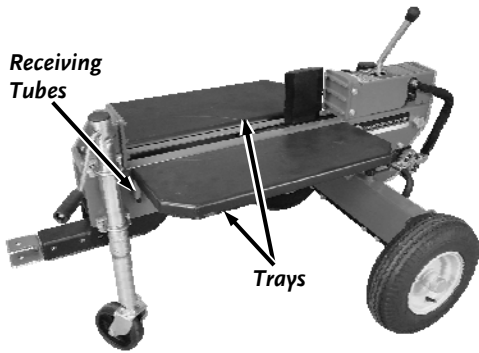

Figure 17
28. Install the Trays onto the sides of the Beam assembly and secure with the Hitch Clips (**Figure 17**).